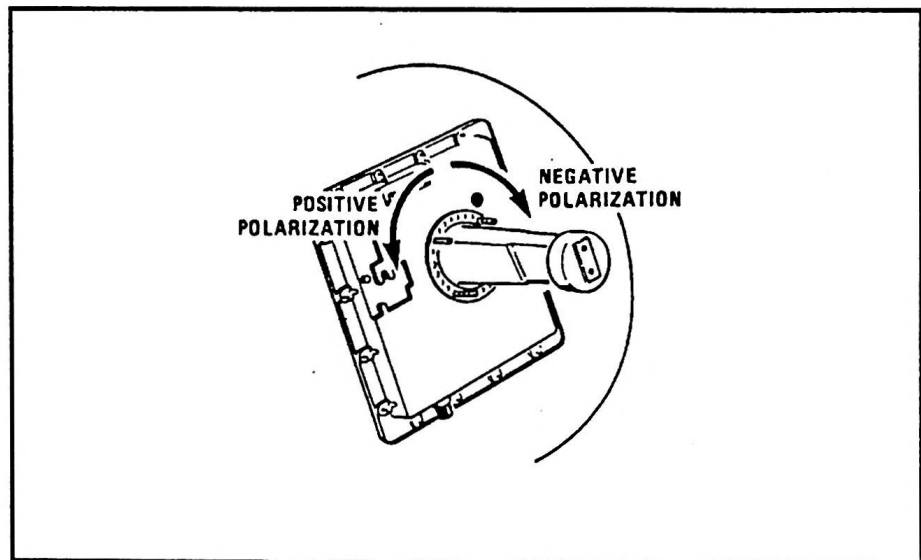

Figure 4-13. Locating Zero Degree Mounting Stud
2. Refer to Figure 4-13 and locate the upper right-hand mounting stud and the reflector mounting hole for the stud. Use an indelible pen to mark "0" degrees on the reflector, adjacent to the stud.
4. Use an indelible pen to mark the polarization angle adjacent to the reflector mounting hole as shown in Figure 4-13.